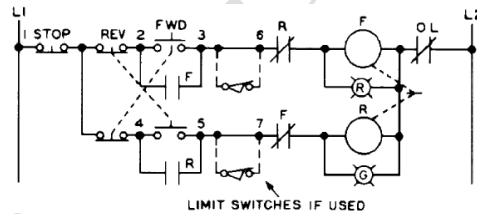

Fig. 30 Reverse Starter with Direction indicator.
18. Reverse Starter + Pilot Lights Direction indicator (Fig.30)